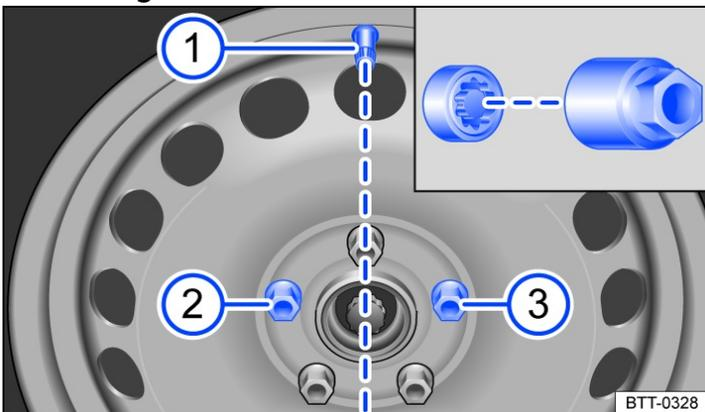

Fig. 2 Changing a wheel: tyre valve ① and locations of the anti-theft wheel bolt ② or ③.
- On wheels with a wheel cover, screw the anti-theft wheel bolt in at position → Fig. 2 ② or ③ according to the position of the tyre valve ①. The wheel cover can otherwise not be fitted.